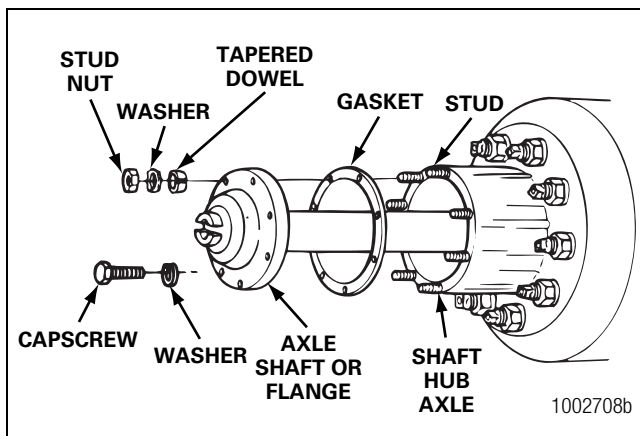

Figure 3.3
4. Remove the tapered dowels and separate the axle shafts from the main axle hub assembly. Figure 3.3.